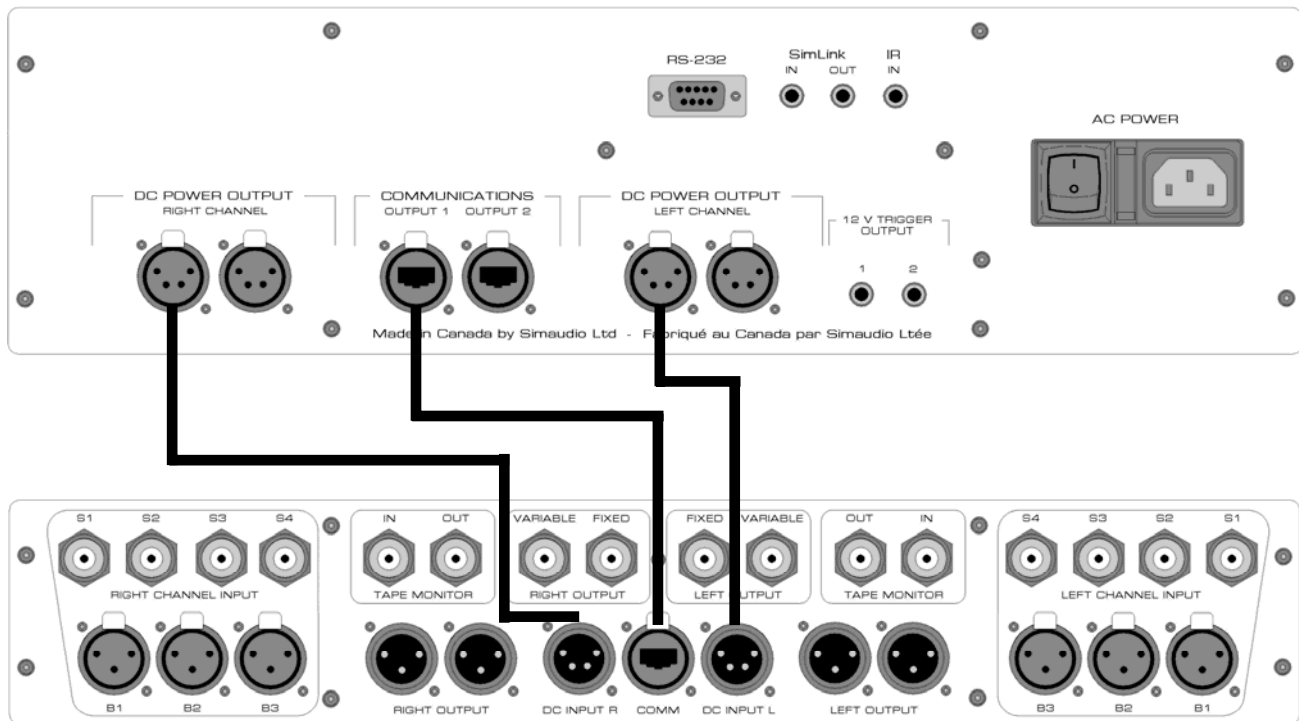

Figure 1: Connecting the MOON P-8 Preamplifier (bottom) and P-8 Controller (top)
1. There are three (3) connections that must be made between the **MOON P-8** Preamplifier's chassis and its separate controller chassis as shown above in Figure 1; First, using one of the two supplied 4-pin XLR cables, connect the end with the male pin socket to the plug labeled "DC Power Output Right Channel" located on the rear panel of the controller. Connect the other end of the cable, with the female socket, to the plug labeled "DC Input R" located on the rear panel of the preamplifier. Next, using the other 4-pin XLR cable, repeat the same process between "DC Power Output Left Channel" and the "DC Input L" socket. Finally, using the supplied 8-pin Ethercon cable (both ends are identically terminated), connect one end to the plug labeled "Communications Output 1" located on the rear panel of the controller. Connect the other end of the cable to the plug labeled "Comm" located on the rear panel of the preamplifier. You will notice that there are two sets of each output connector on the controller, however only one of each is required to operate this preamplifier; the other connectors are for possible future use with other components. Do not attempt to modify the lengths these cables – they are specifically designed for optimal performance.